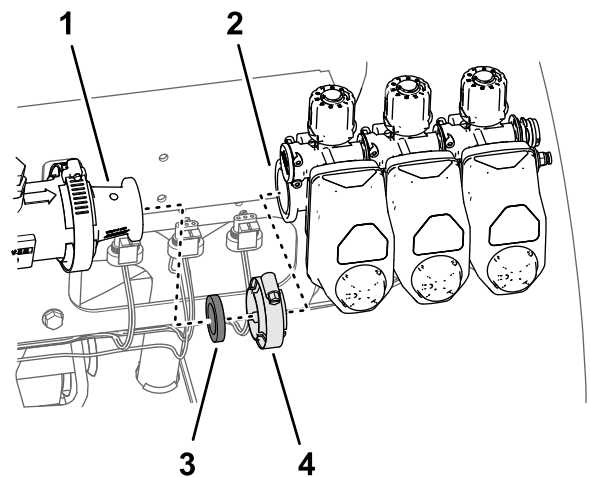

Figure 70
3. Remove the flange clamp 40 to 64 mm (1-9/16 to 2-1/2 inches) and gasket 25 x 35 mm (1 x 1-3/8 inches) that secures the flange of the left section valve to the adapter (Figure 70).
- Remove the 3 section valves from the machine (Figure 70).